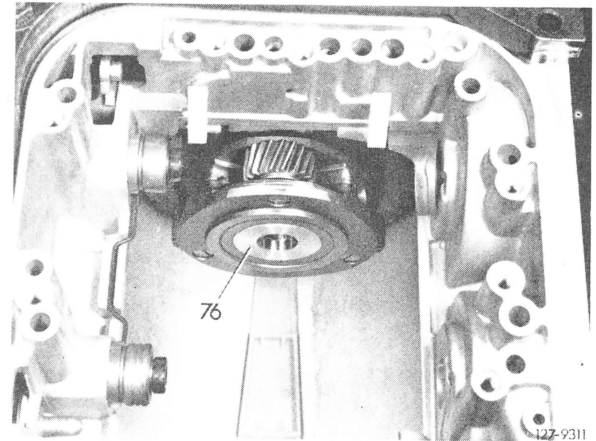

Fig. 37
**61** Insert output shaft (76) with radial ball bearing into transmission case and knock-in by means of a plastic hammer (Fig. 37).